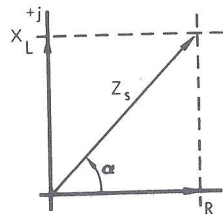
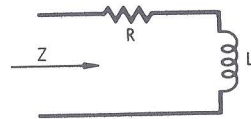

Figure 8e
Figure 8f
The impedance of a series RL (resistance-inductance) is handled on the rule in much the same manner as the RC circuit was. In this case, however, the values on the CorL scales are values of inductance and the resistance component is read on the X_L scale. Fig. 8e is the complex diagram for a series RL combination.
Fig. 8e shows the value of X_L measured upwards and is prefixed with $+j$. The phase angle is marked α to coincide with the marking on the rule. The values of X_L and its associated phase angle α are marked in red. Notice that α increases with frequency, i.e., increases going to the right.
with its losses as a symbolic resistance in series with the inductance. Often there is a real resistance added and this is lumped with the inherent losses of the coil. Such a circuit is diagrammed as in Fig. 8f where $Q = \tan \alpha = X_L/R$. For any pair of values of L and R on the L and X_L scales, Q may be read for the desired frequency. There is no provision on the rule to determine the decimal point for Q since it can readily be done by inspection. Q is unity at the frequency where $X_L = R_L$, the loss resistance of the circuit. The relationship $Q = \omega \frac{L}{R}$ shows that Q varies directly as ω . From this it can be
b. Assume that R in Fig. 8f is 18Ω and $L = 0.75 \text{ h}$. What will be the complex impedance at 6 cycles? To 18 on the X_L scale set 0.75 on the CorL scale, move the hairline to 6 on the F scale, and on the α scale read 57.5° . From Fig. 8e it can be seen that $Z_s = R/\cos \alpha$. The division of R can be performed on several scales of the rule, but the most direct method is to set 0.538 ($\cos \alpha$) on CorL to 18 (R) on X_L and at 1 on CorL read 33.4 on X_L . Since the values used in this example are the ones in which the rule is calibrated the result is $Z_s = 33.4 \Omega \angle +57.5^\circ$.
1. In Fig. 8f, $R = 520 \Omega$ and $L = 0.24 \text{ mh}$. What is the impedance (Z_s) of this combination at 150 Kc?